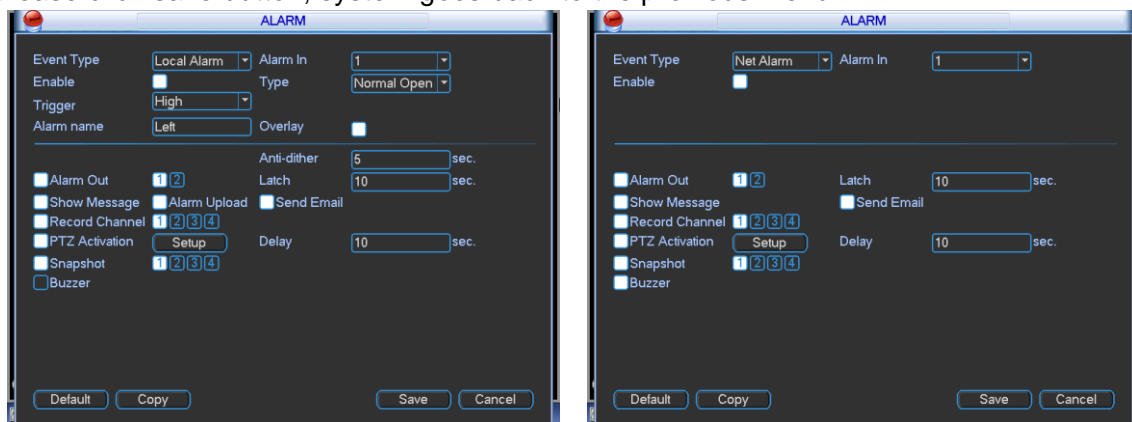

Figure 4-60
- b) In the main menu, from Setting to Alarm, you can see alarm setup interface. See Figure 4-60.